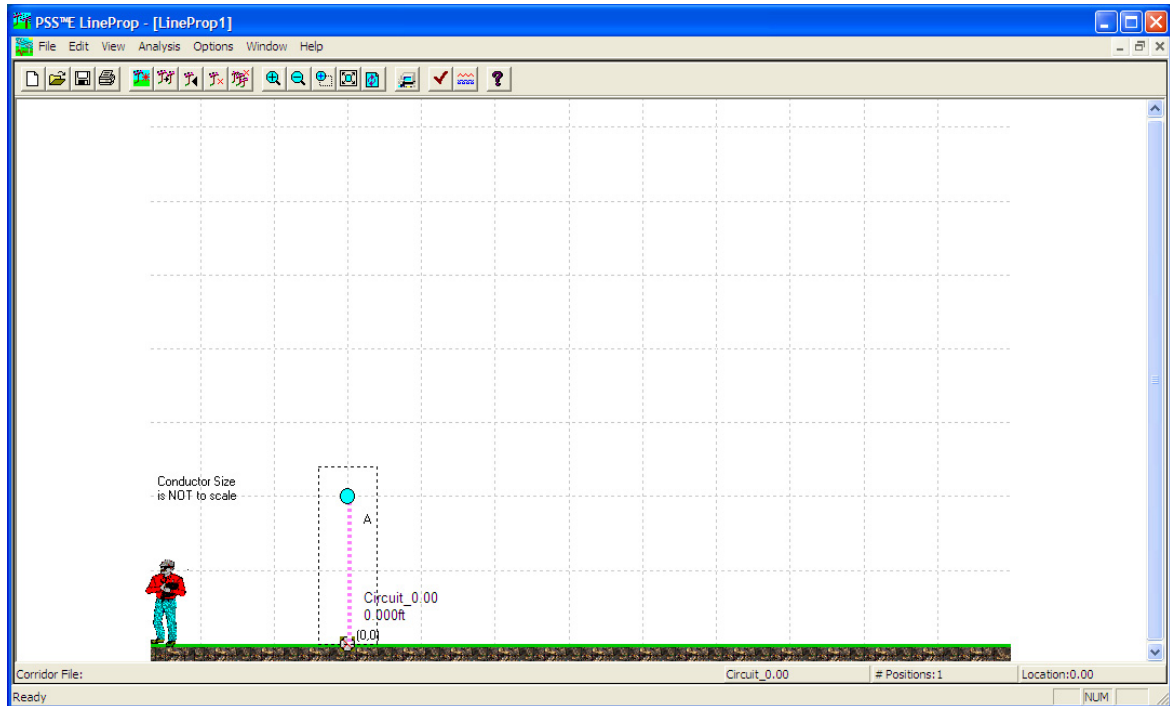

Figure 1-4. Initial Circuit View
4. Click on **OK** to accept the input. The Corridor View is now changed as illustrated in Figure 1-4. Notice that there are two circles at position 0, one above the other. The top circle represents a Position.